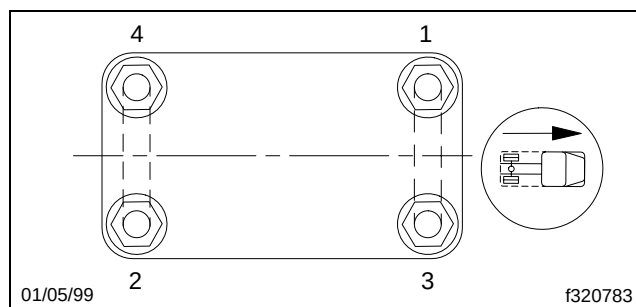

Fig. 4, U-Bolt Nut Tightening Sequence
- 18.3 Replace the second U-bolt on the left side, and evenly tighten the U-bolts 60 lbf-ft (81 N·m) in the sequence shown in **Fig. 4**.